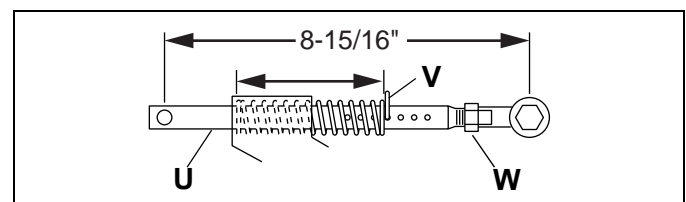

Figure 8F
3. Raise reels and install down pressure spring pins (**V**, Figure 8F). If cutting height has not changed, set pins in same position they were in when reels were removed.
1. Lower reels to the ground and remove down pressure spring pins (**V**, Figure 8F). Make note of where springs are set.